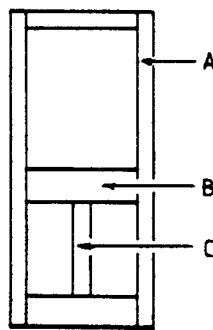

Fig.13
39. Fig.13 shows the elevation of a panelled door. Name the parts indicated.